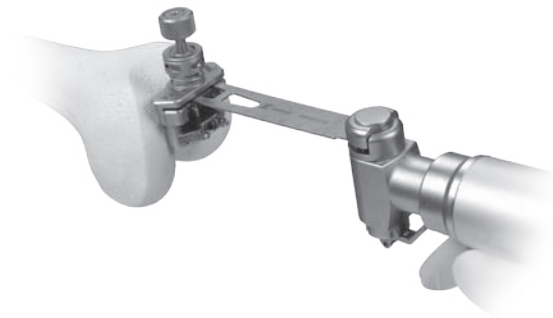

Fig. 16
- Make anterior cut with an oscillating saw (**Fig. 16**).